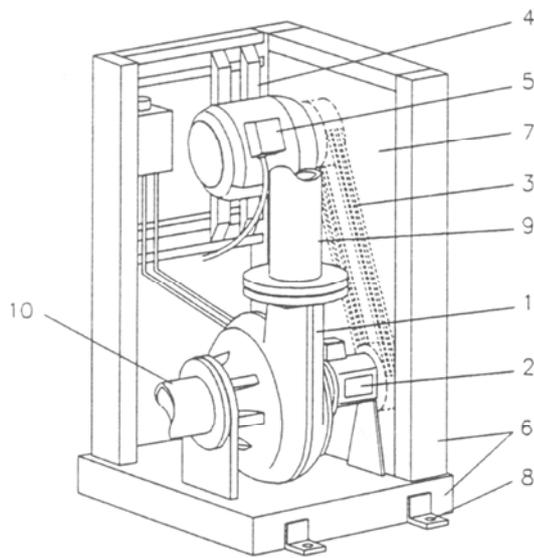

Fig. 7.7
(see fig.7.7)
- fixation of the base plate to the floor, see fig.7.7 pos. 8.